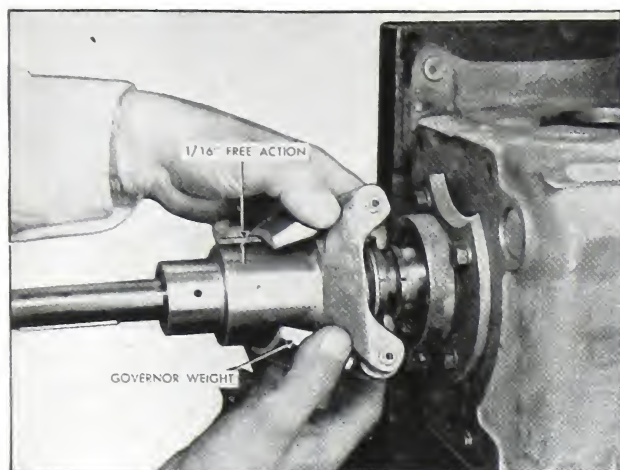

Fig. 5-146. Testing free action of weights
11. The governor weights should have 1/16 inch free motion before engaging the idling spring. Fig. 5-146.